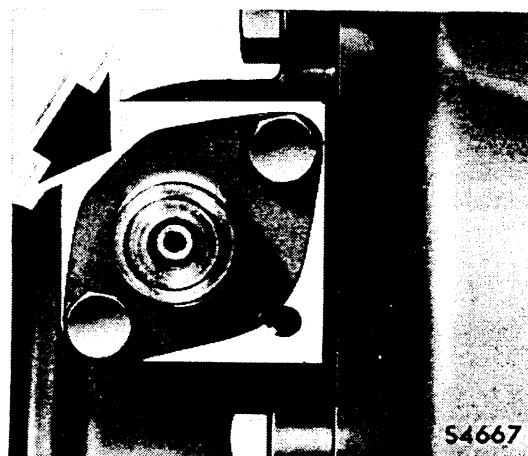

Fig 1 - Speedometer housing
- 10 Locate the driven gear housing as shown in Fig 1.